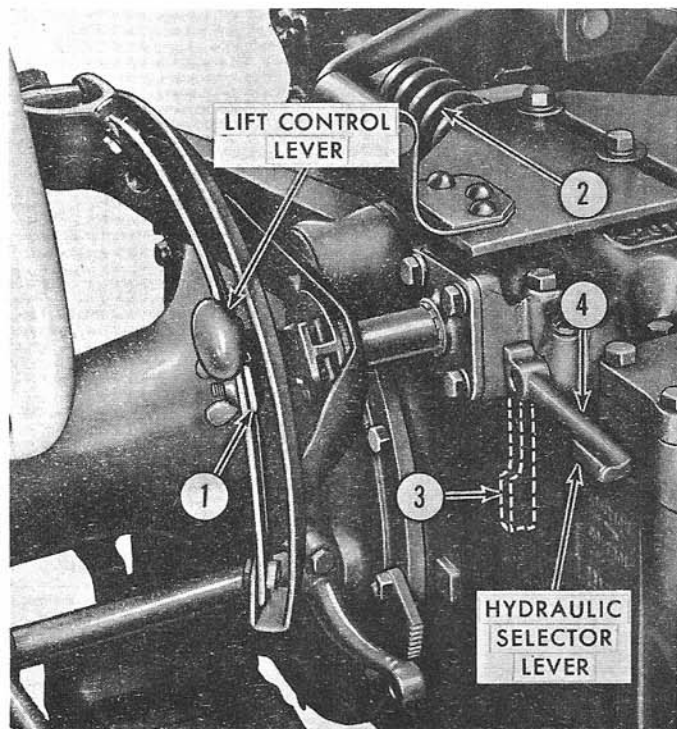

Figure 2
The tractor hydraulic system can be set in either implement position control (4), Figure 2, or constant draft control (3), depending on the type of blade work to be done. Generally, position control is best for hard-packed soil.
With the implement resting on the ground, move the tractor hydraulic selector lever down to the constant draft control position (3), Figure 2, and check the load of the draft control spring (2). As a starting point, it is recommended that the spring be loose, not under compression. If necessary to adjust, remove the yoke-to-rocker pin and turn the yoke until the spring can be turned slightly by hand. Replace the pin and cotter pin.
1. Install a drawbar stabilizer kit (sold separately) on the tractor to prevent the blade from swaying. Place the tractor selector lever in position control (4), Figure 2. Attach the top link in the lower hole of the tractor rocker arm, and tighten the draft control spring three full turns.